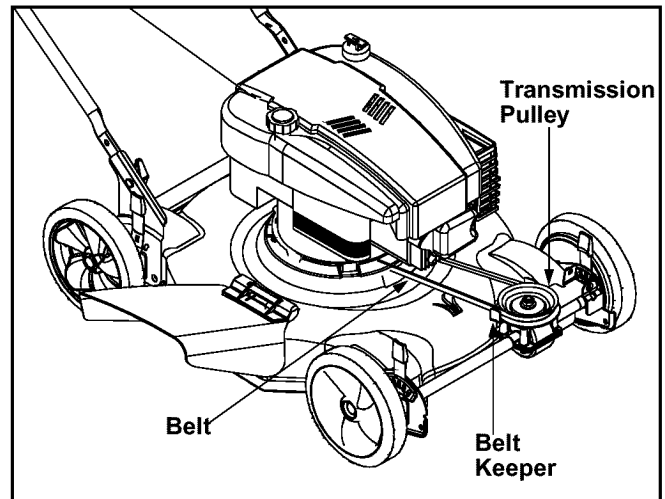

Figure 14
- With the drive system in the disengaged position, the belt can be lifted off the transmission pulley. See Figure 14.